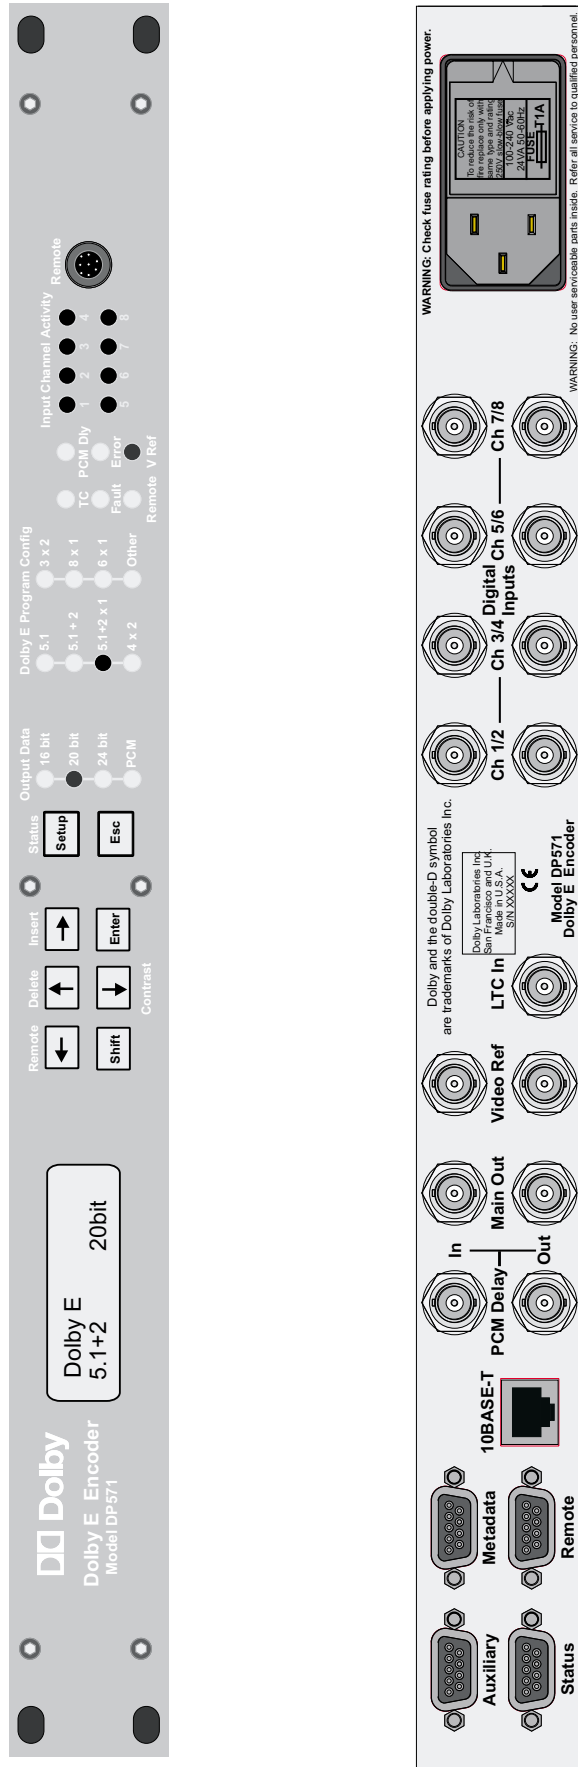

Figure 3-2 DP571 front and back panel
- Figure 3-2 – DP571 front and rear panels